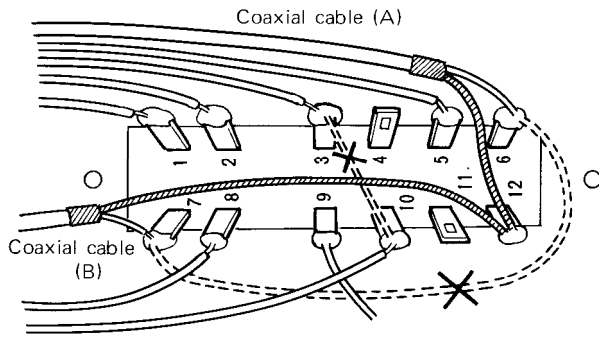

Fig. 4 Change of TS-520 X VERTOR Connector Circuit
Only the X VERTOR connector circuit may be changed. Do not touch any other circuits. To change, remove the lead wire connected between the pins 6-7 and the other lead wire connected between the pins 3-10 by referring to Fig. 4.
NOTE: On earlier produced TS-520, solder both the earth line of coaxial cable (A) and (B) to twelfth terminal (see Fig. 4), which are open.